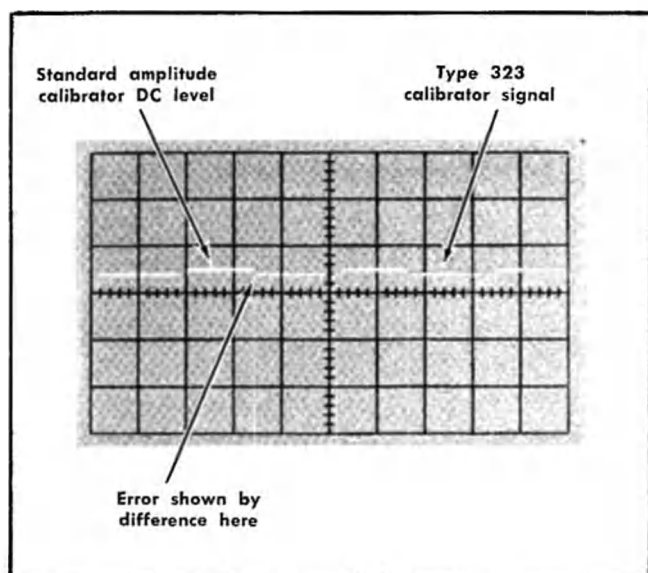

Fig. 5-7. Typical CRT display when checking voltage output of calibrator.
- g. CHECK—Difference between the standard amplitude calibrator output level and the Type 323 calibrator output level is 0.05 division (about one trace width) or less (0.5 volt,  $\pm 1\%$ ; see Fig. 5-7).